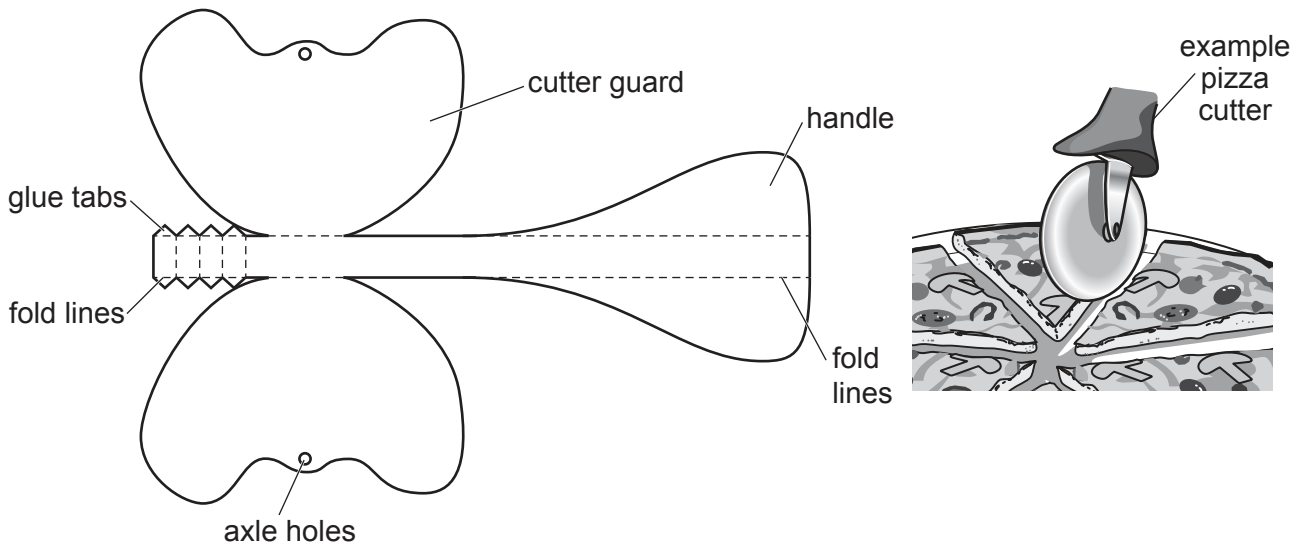

Fig. 2.1
- 2 Fig. 2.1 shows a prototype pizza cutter handle and guard development (net) made from card that is to be made in a school workshop.